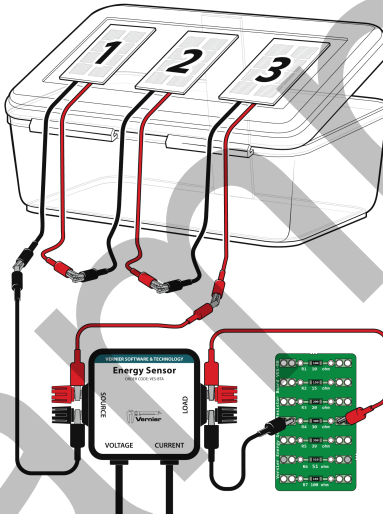

Figure 3
- a. Use a wire lead to connect the black wire from Solar Panel 1 to the black Source terminal (see Figure 3). **Note:** If you have a black wire lead, use it. If not, you can use any other color.